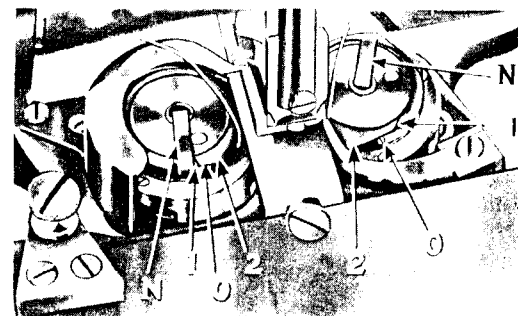

Fig. 9. Threading the Bobbin Cases
Hold the bobbin between the thumb and forefinger of the right hand, the thread drawing on the bottom from left to right, and place it on the center stud of the bobbin case, then push down the latch (N, Fig. 9). Draw the thread into the slot (1) in the edge of the bobbin case and back of the projection (2), leaving a loose end of thread about two inches long above the slide. When closing the slides, leave just enough space for the threads to pass through.
The tensions on the bobbin threads are regulated by means of the screw (O, Fig. 9) nearest the center of the tension spring on the outside of each bobbin case. To increase the tension, turn this screw over to the right. To decrease the tension, turn the screw over to the left.